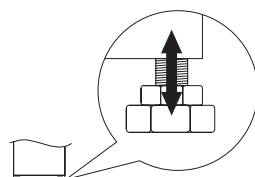

Fig 3
- Make sure the appliance is placed in a horizontal position by screwing in the 2 adjustable front legs (fig. 3)